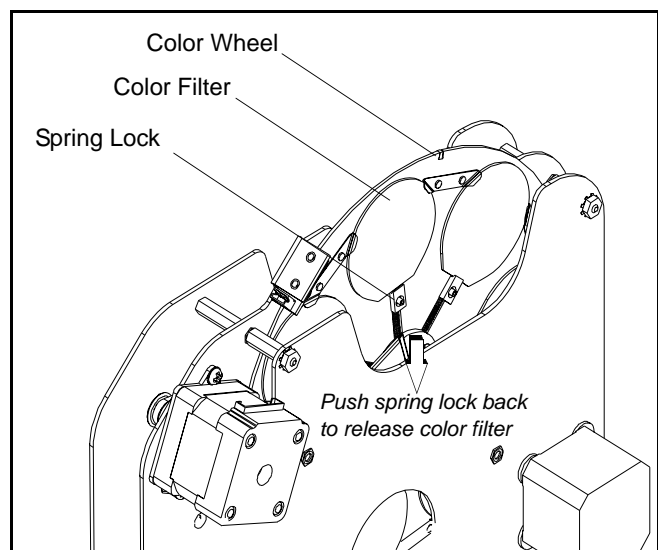

Figure 2-5: Color Filter Replacement
- Step 2. Remove top head cover by loosening four 1/4-turn screws as shown in Figure 2-5.